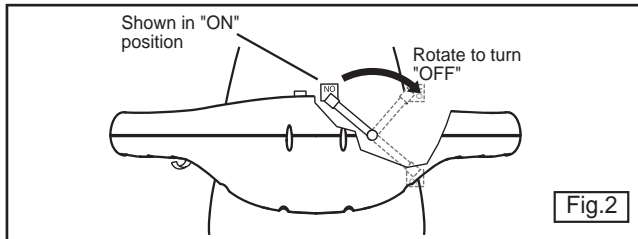

Fig.2
4. When ready to set off, switch the Master Switch to the On position shown in figure 2.
1. Always ensure that the Master Switch is Off - see figure 2.